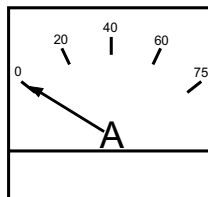

Figure 56. Ammeter (No Load)
13. The ammeter (Figure 56) will indicate zero amps with no load applied. When a load is applied, this meter will indicate the amount of current that the load is drawing from the generator's alternator.